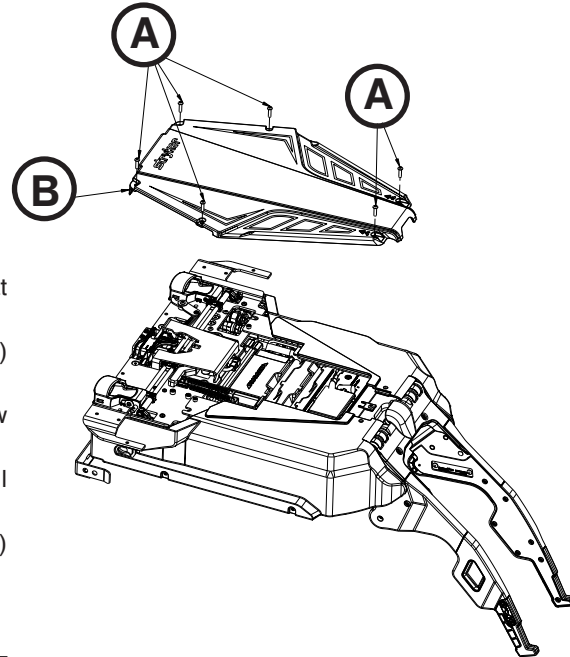

Figure 62
1. Using a T25 Torx driver, remove the six screws (A) that secure the trolley top cover (B) (Figure 62).